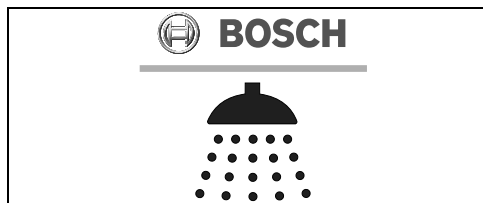

Fig. 52 *Bosch Water APP*
- ▶ Download the "Bosch Water" app, available for Android and IOS for communication with the water heater, see fig. 52.
- ▶ Download the “*Bosch Water*” app, available for Android and IOS for communication with the water heater, see fig. 52.